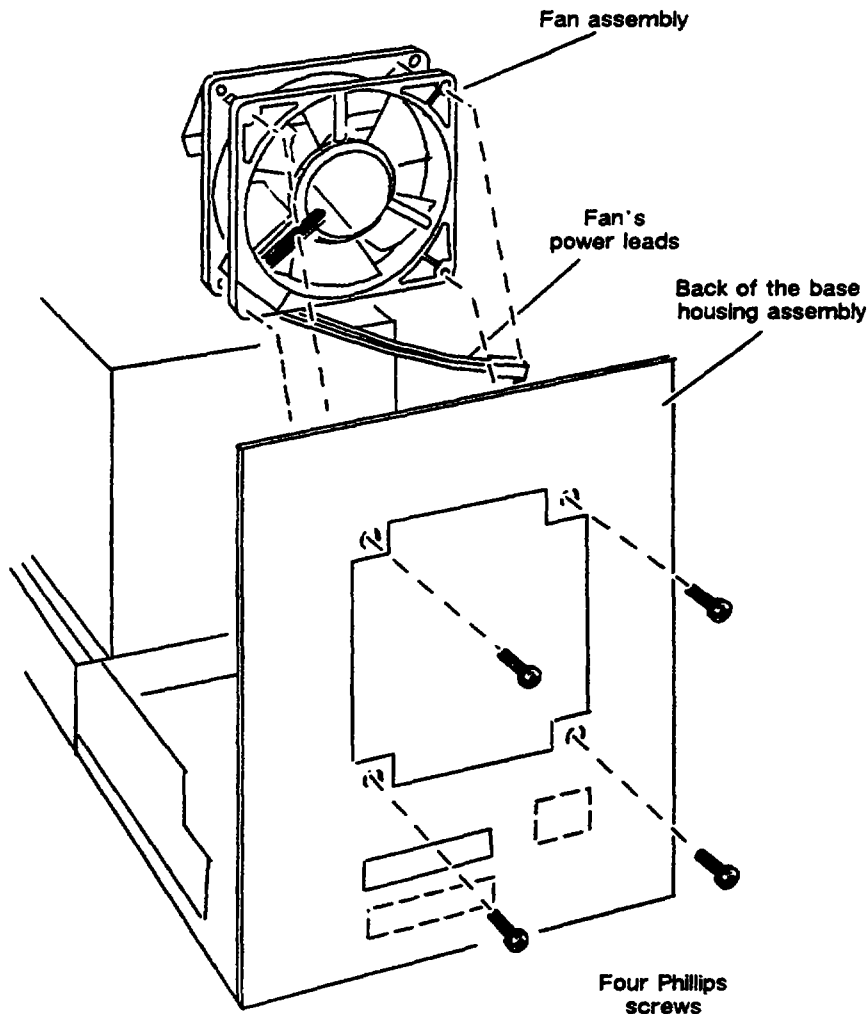

Figure 4-20 Attaching the Fan to the Back of the Subsystem
8. Position the fan assembly on the back of the base housing assembly and attach it with the four Phillips screws, as shown in Figure 4-20.